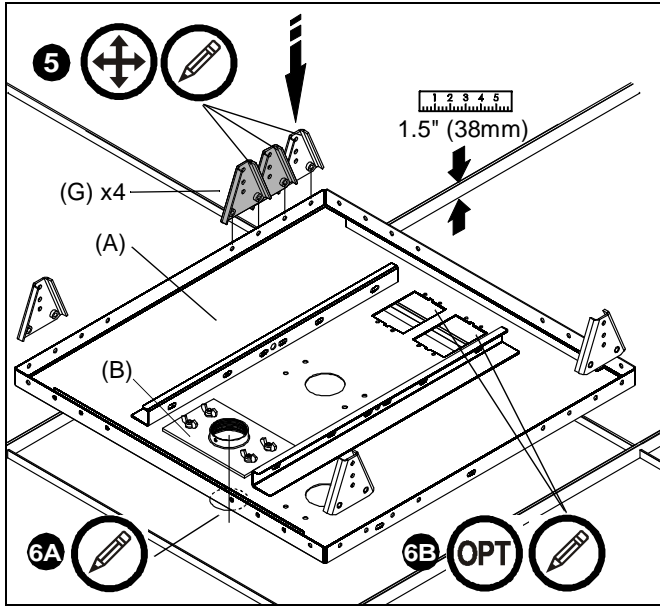

Figure 4
4. Lay tray (A) on top of ceiling tile so that extension column support is aligned with location noted in Step 1.
5. Each hanger bracket (G) can be installed in one of 3 locations in each corner of tray (A), dependent upon specific installation requirements. Mark locations of brackets (G) on tray (A) with pencil (See Figure 4). Ensure brackets (G) are located as follows:
- On sides of tray (A) adjacent to primary (1-1/2" (38mm) high) rails of ceiling framework.
- As close to corner of tray (A) as installation allows.
6. FOR INSTALLATION ON TOP OF EXISTING TILE: Mark the following locations on ceiling tile with pencil (See Figure 4):